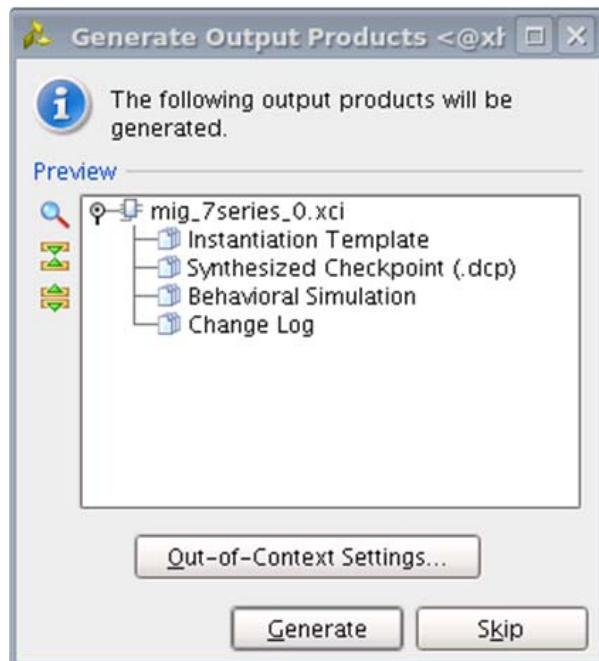

Figure 5-19: Generate Output Products Window
1. After clicking **Generate**, the **Generate Output Products** window appears. This window has the **Out-of-Context Settings** as shown in Figure 5-19.